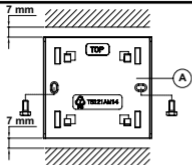

Fig 3.
1. Use the screws supplied to fit locking plate A (fig. 3) to a flush outlet, or directly onto the wall using the screws and plugs. The 'TOP' marking should be visible at the top end of the locking plate.